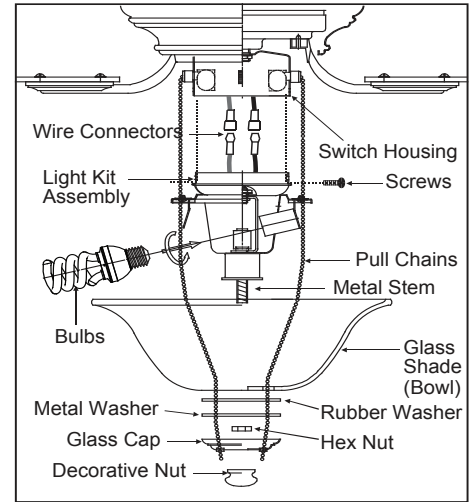

Figure 20
3. Carefully push all wires back into the switch housing. Attach the light kit fitter by aligning its keyhole slots with the three screws holes and reversing switch on the side of switch housing. Tighten the three screws securely to prevent the light kit from vibrating loose. (Fig. 20)
6. Feed the pull chain(s) through the eyelet in the shade and cap. Secure the light kit assembly with decorative nut provided. Do not overtighten. (Fig. 20)